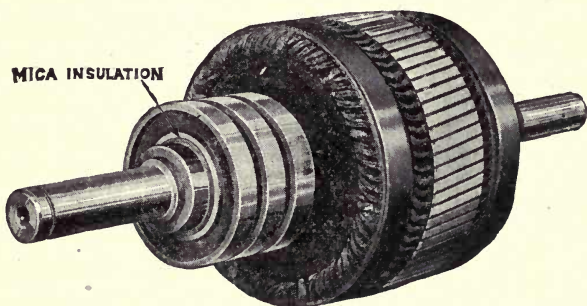

FIG. 84.—Armature.
**231. Armature and Core.**—The armature of a dynamo (Fig. 84) consists of a steel or iron shaft on which are mounted a large number of thin circular iron disks held together by bolts. This arrangement makes a cylinder with a groove